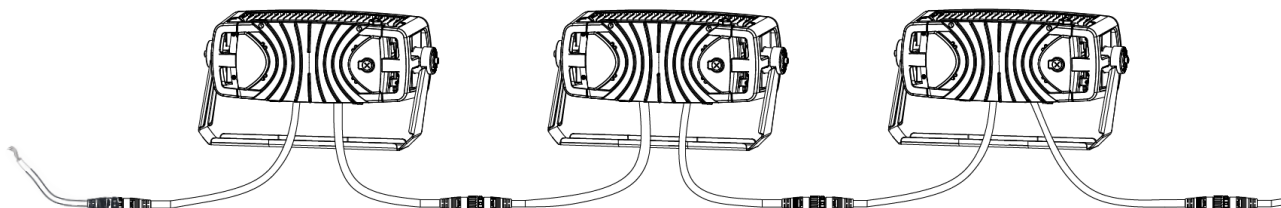

Fig. 23
- The fixture includes a 3 pin XLR cable to connect the controls of multiple fixtures in a series. Refer to Fig. 23 for an example of connecting fixtures in series. **Note:** each fixture must be connected to it's own power supply.